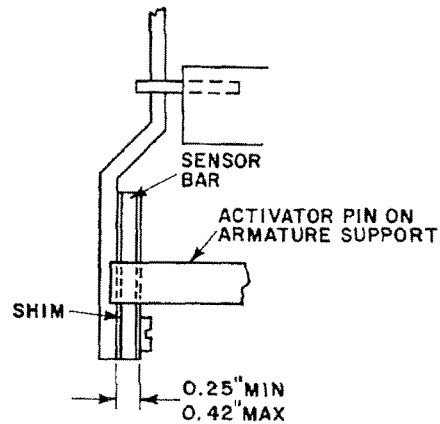

Fig. 39. Overlap of activator pin and sensor bar
2. The engagement of activator pin on armature support with sensor bar should be such that an overlap of 0.25 inch to 0.42 inch exists. If necessary, shims may be used to obtain this dimension (see Fig. 39)